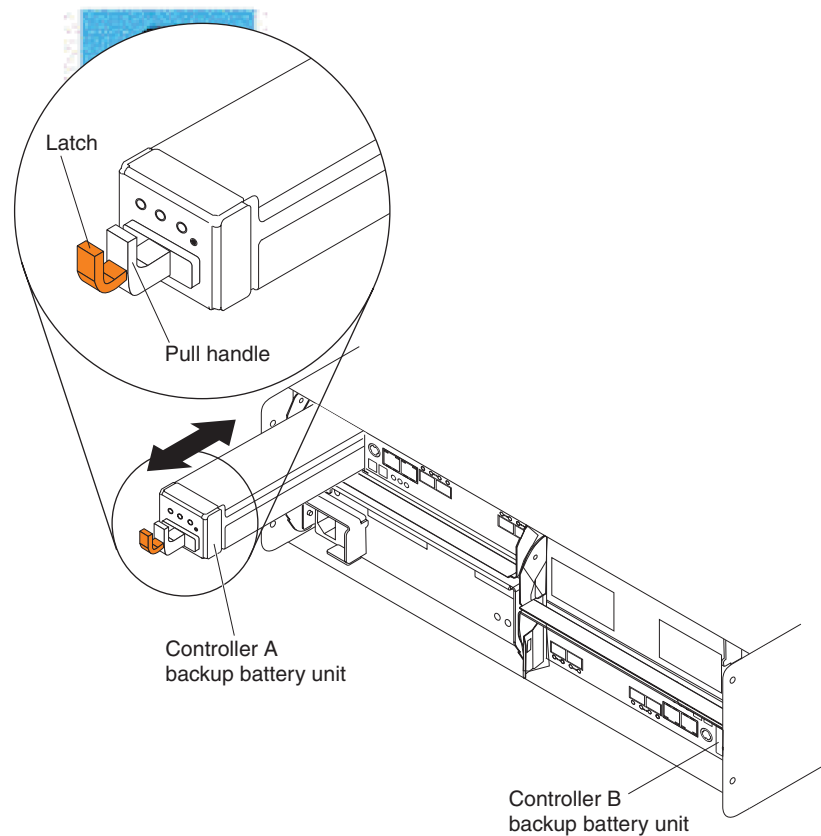

Figure 82. Removing and replacing a battery unit from the controller chassis
5. To remove the failed battery unit from the RAID controller, press the orange battery unit latch toward the black battery handle to unlatch the battery from the DS3950 chassis and slowly pull the battery unit from the controller chassis using the handle, as shown in Figure 82.